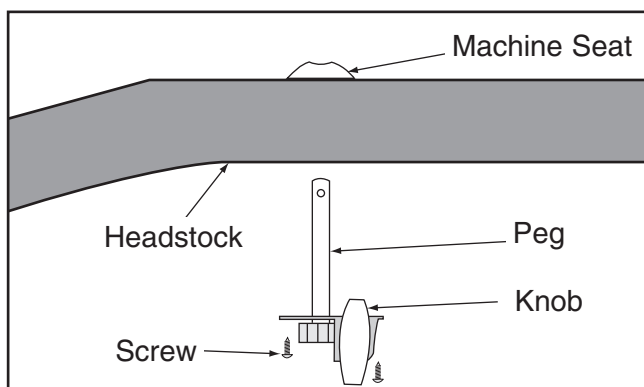

Figure 19. Tuning machine installation.
2. From the back of the headstock, slide the peg through the headstock and seat (see **Figure 19**).